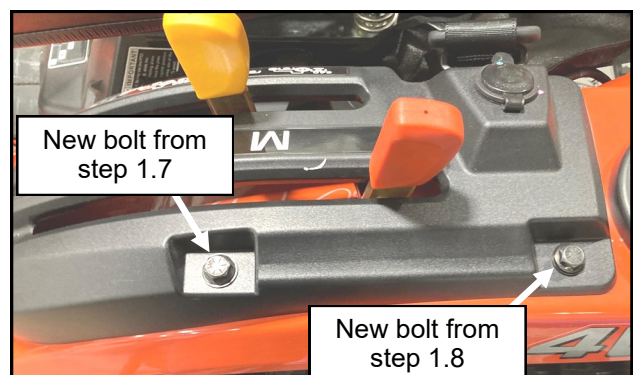

Fig. 1.8 (left fender console with handle removed)
**1.8** Place the console back onto the fender and re-attach with the screws that were removed and one nut on the forward stud of the handle bracket. Make sure the screws are lined up with the bosses in the console. Use the bolt, washer and nut as listed below, through the rear handle hole and through the fender. Tighten all hardware and put the knobs back onto the levers. See Figure 1.8.